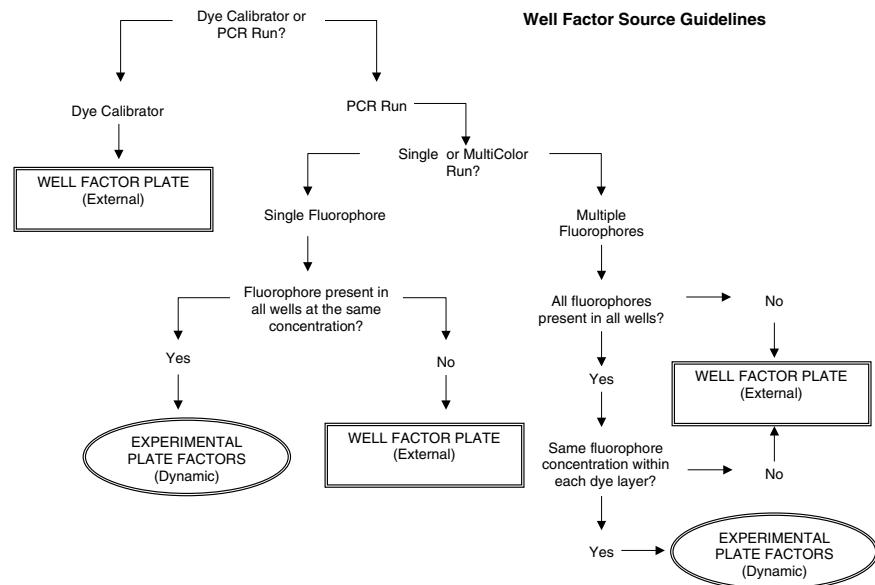

Fig. 5.2.
7. If you will be using an external well factor plate, (see Figure 5.2) place the well factor plate in the iCycler; otherwise, place the experimental plate in the iCycler. Click the View Protocols tab in the Protocol Library and select the desired Thermal Protocol; click the View Plate Setup tab in the Protocol Library and select the desired plate setup and then click **Run**.